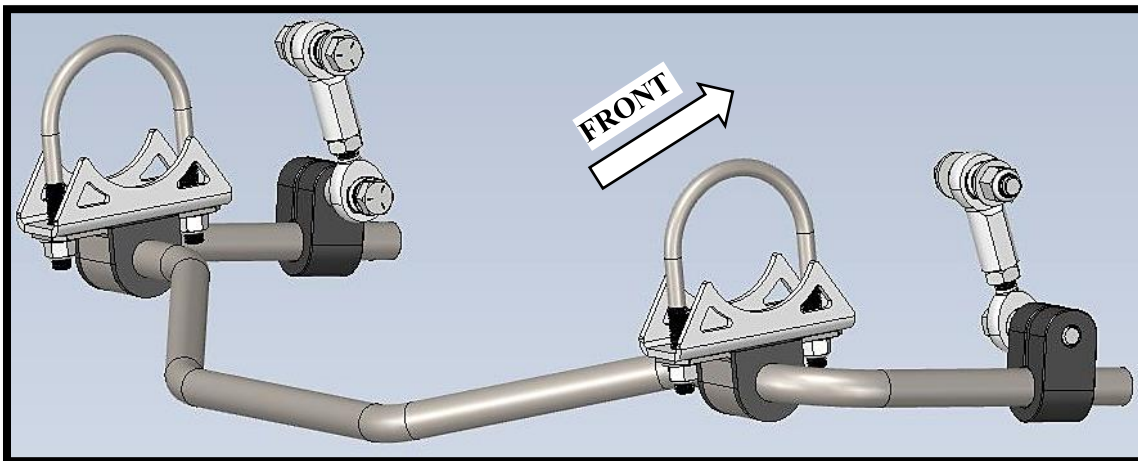

Figure 1
1. Lightly grease the inner bushings with marine grease before loosely mounting the sway bar to the axle using the included u-bolt kit (#7,#8, #9) and sway bar bushing clamps. **(Figure 1 & 2)** The legs of the bar should be pointing towards the front of the vehicle and the rear of the bar biased downward. Leave the u-bolts loose until the bar is fully installed so the angle of the mount can be adjusted.